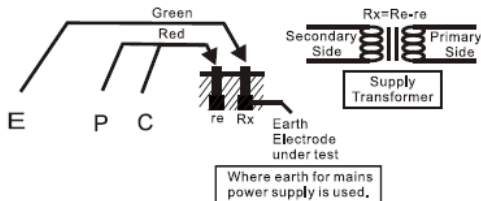

Fig.2
- (1) This method is recommended where an earth resistance higher than $10\ \Omega$ is measured or where it is not possible to drive auxiliary earth spikes. An approximate value of earth resistance can be obtained by the two wire system where is shown in Fig. 2.
- (2) Rotary to function switch to “EARTH VOLTAGE” position and press to test. Make certain that earth voltage is less than 10V.
- (3) First rotary the function switch to “ $200\ \Omega$ ” position and press to test, read earth resistance. If the display shows “1”(MSD), switch to “ $2000\ \Omega$ ” position and read earth resistance.
- (4) The reading obtained (R_x) is an approximate earth resistance value. There is no need for external shorting as P and C terminals are shorted by using the test leads specified for the Simplified measurement.